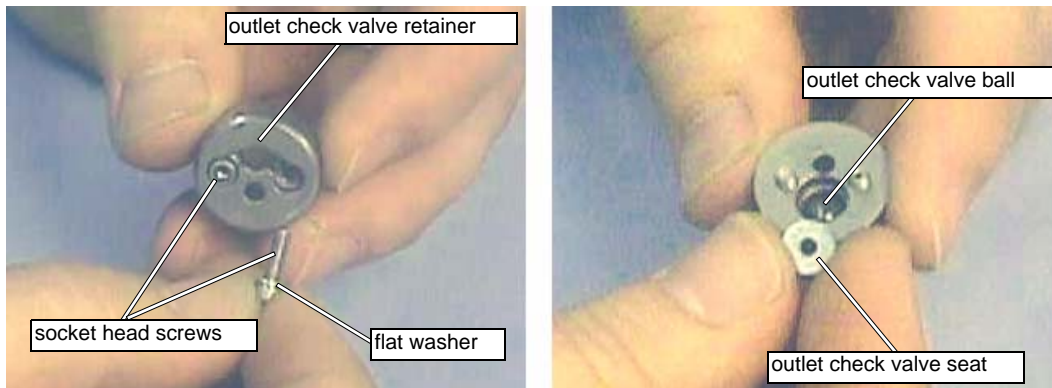

Figure 5-24: Inserting the Socket Head Screws
Note: The outlet side of the Check Valve Body has three holes in the end of the stem (Figure 5-24). The notch and chamfer on one side of the Static Backup Ring faces toward the Check Valve Body.
3. Apply anti-seize lubricant to the threads of the two Socket Head Screws. Install the Flat Washers and the two Socket Head Screws through the Outlet Check Valve Retainer (Figure 5-24):